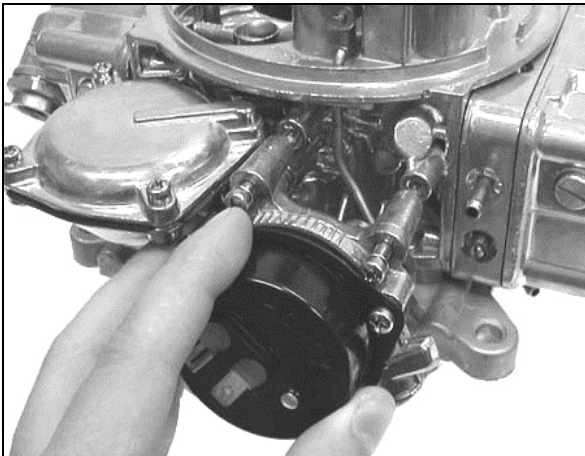

Figure 14
1. Remove the choke cap and choke housing to gain access to the third screw retaining the vacuum diaphragm to the main body (Figure 14).